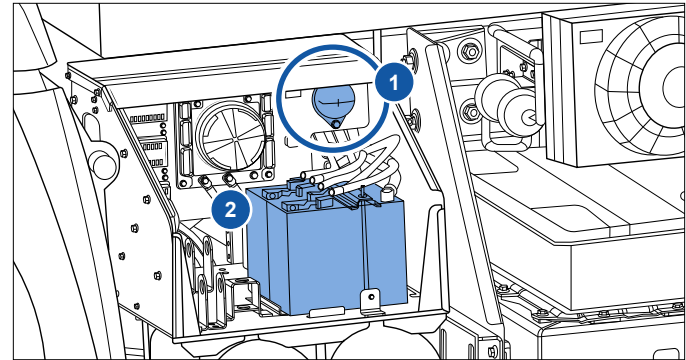

Figure 11 - Battery disconnect switch
2. Turn off the battery disconnect switch to shut off the low-voltage power supply (**Figure 11 no. 1**).
3. Double cut the low-voltage battery cable located in the accessories compartment (**Figure 11 no. 2**).